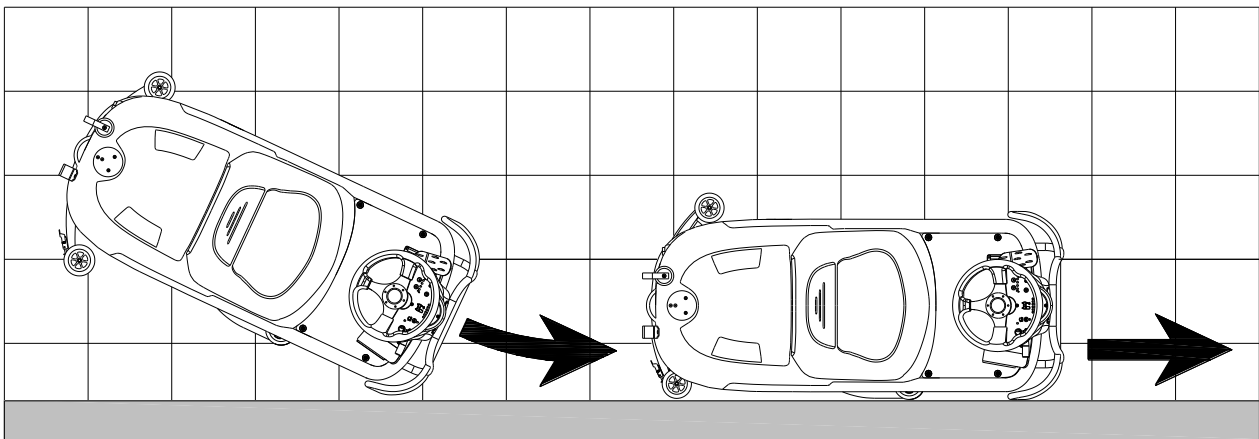
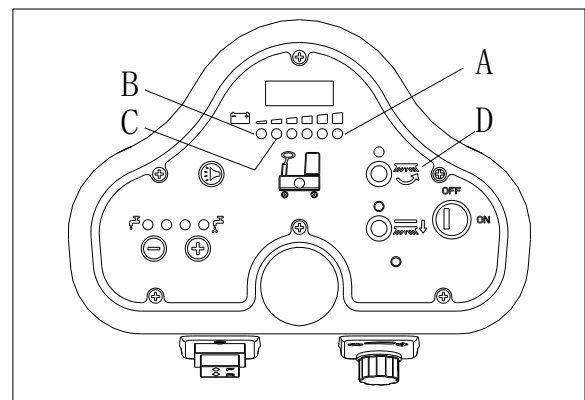

Figure 11
Figure 12
For correct scrubbing/drying of floors at the sides of walls, we suggest to go near the walls with right side (Bumper wheel side) of the machine as shown in below Figure 11.
When there is green light (A, Figure 12) on, the batteries have enough power for the machine to work normally; when all the green lights off, the yellow light (C, Figure 12) is on, the power of batteries are too low, please charge the batteries; when the red light (B, Figure 12) flashes, the batteries has run out, the vacuum motor and brush motor will be turned off automatically a few seconds delay, please drive the machine for batteries charging immediately.
If the vacuum system turns off accidentally, (For example, when the float is activated because of a sudden machine movement), to resume the operation: turnoff the vacuum system by pressing the switch (D, Figure 12), then open the cover (A, Figure 11) and check that the float inside the grid (B) has gone down to the water level. Then close the cover (A) and turn on the vacuum system by pressing the switch (D, Figure 12).
2. Lift the brush/pad deck (H, Figure 12) by pressing the pedal (G).
3. Lift the squeegee with the lever (H).
5. Empty the recovery tank with the drain hose (D). Then rinse the tank with clean water.